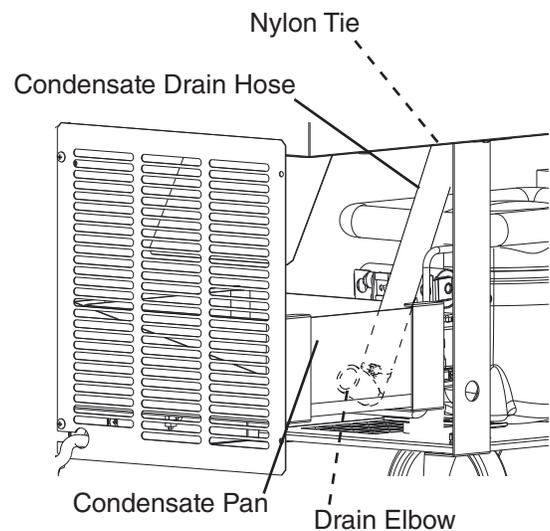

Fig. 41
- 5) Remove the nylon tie, then remove the condensate drain hose and drain elbow. See Fig. 41. **NOTICE! Before removing the condensate drain hose, place a pan underneath the condensate drain pipe to catch any water.**